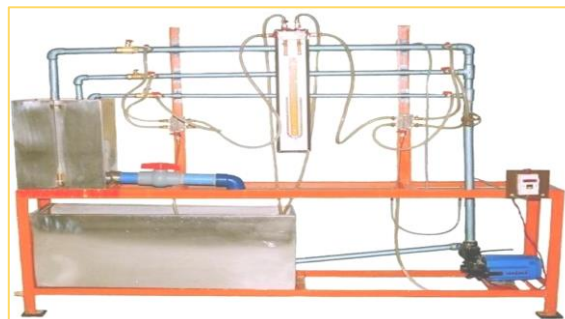

Figure 4. Flow through pipe experiment setup
- Start the pump; operate the valves as shown in figure4.
- Start the pump, operate the valves as shown in figure4.